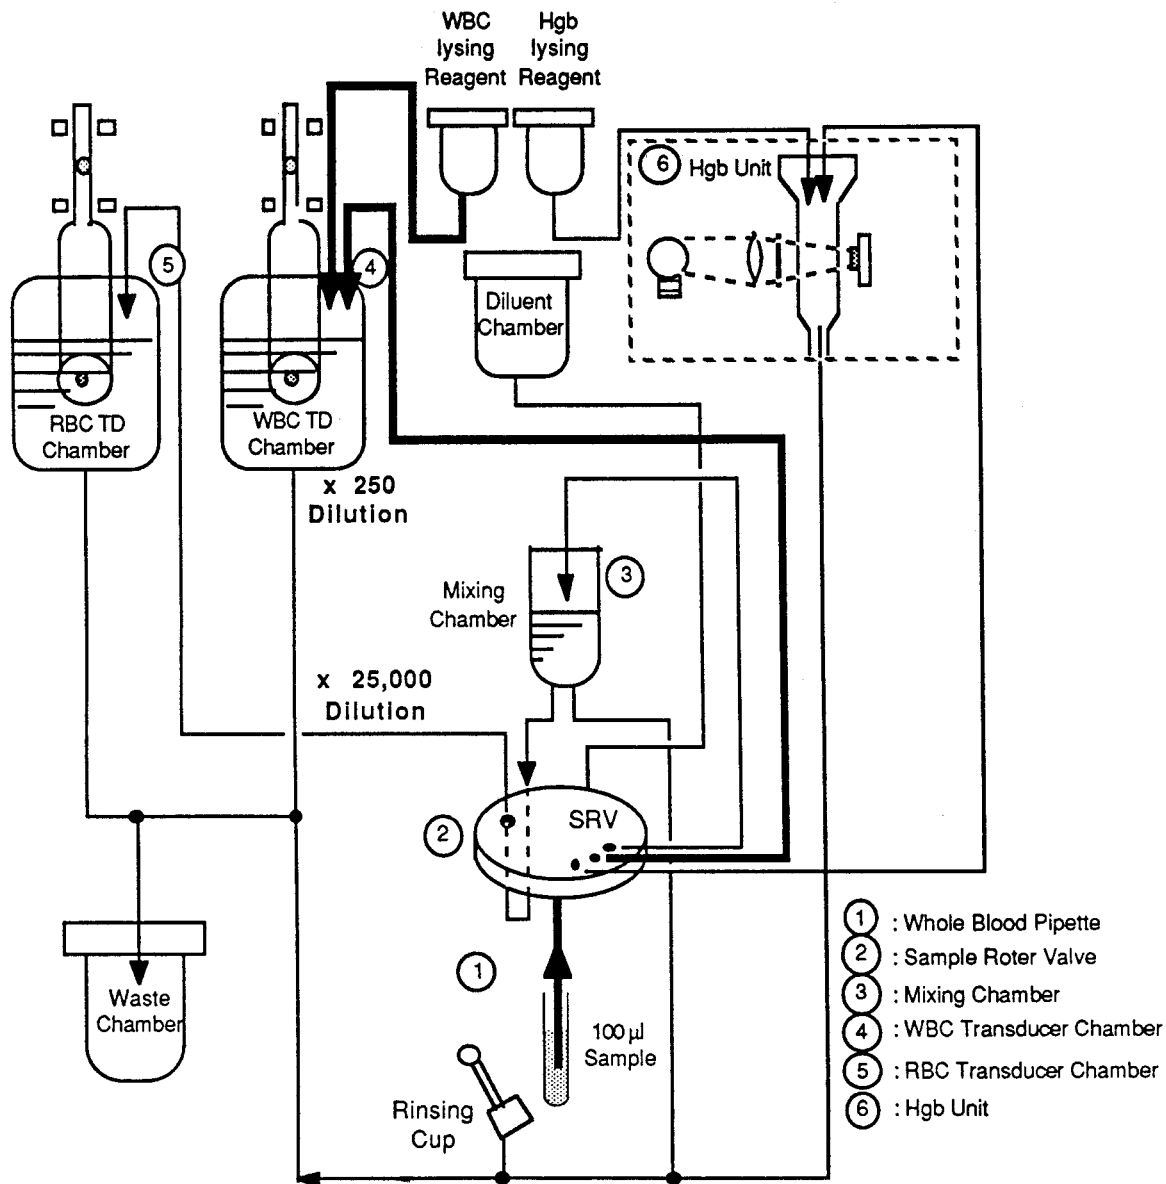

Figure 4-3 Sample Flow - WBC
Refer to the sample flow chart shown in Figure 4-3. The WBC sample flow is shown with bold lines. The blood sample, with EDTA as an anti-coagulant, is aspirated through the Whole Blood Pipette ① into the Sample Rotor Valve ②. The 12 μL of the whole blood sample is measured and diluted into 1 : 250 by adding approximately 2 mL of diluent and 1 mL of WBC lysing reagent in the WBC Transducer Chamber ④. The diluted WBC sample (1 : 250) in the Transducer Chamber is aspirated through the aperture and counted. The 0.4 mL of final diluted samples are used for counting by the electric resistance detection method.